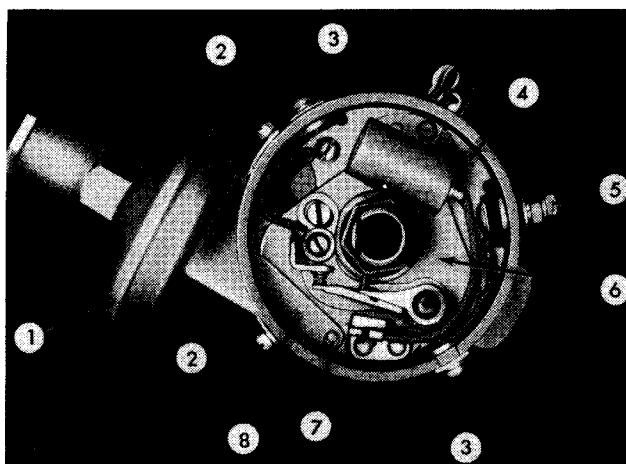

FIG. 1
To remove the breaker plate and support plate assembly, first remove spark modifier (1, Fig. 1) from the distributor. Remove the wire clip (7), the modifier retaining screw (2), turn the modifier assembly to lift the diaphragm link (8) off the pin in the breaker plate (6) and remove the modifier. Remove the retaining screws (3), terminal screw (5) and insulators and lift the assembly out of the bushing.